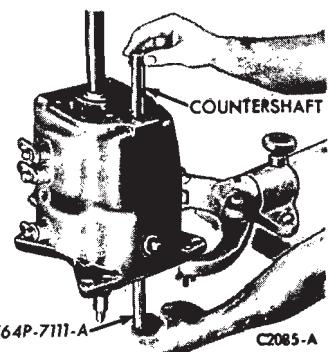

FIG. 23—Installing Countershaft
33. Place the transmission in a vertical position as shown in Fig. 23. Align the countershaft gear bore and thrust washers with the bore in the case. Install the countershaft.